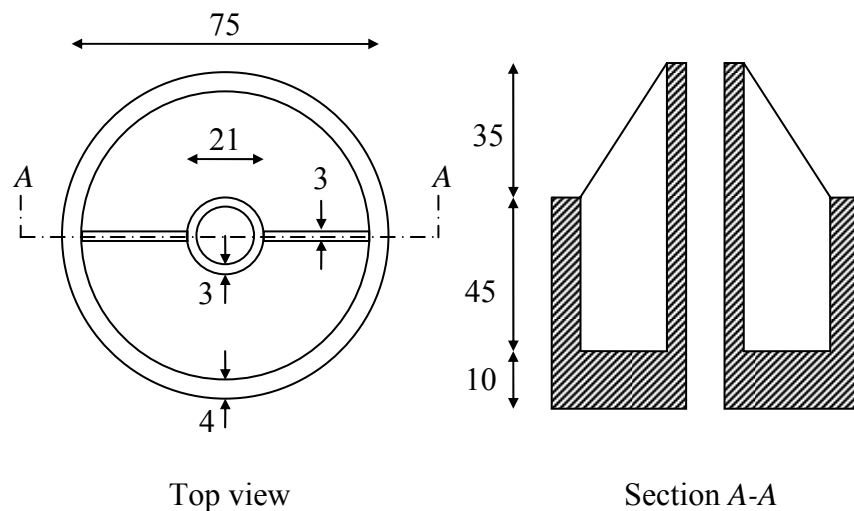

Figure 2: Component for Question 2
- The component shown below in Figure 2 is to be manufactured in a high shrinkage polymer by injection moulding. Criticise the design and suggest improvements. All dimensions are in mm. (Diagrams not to scale)